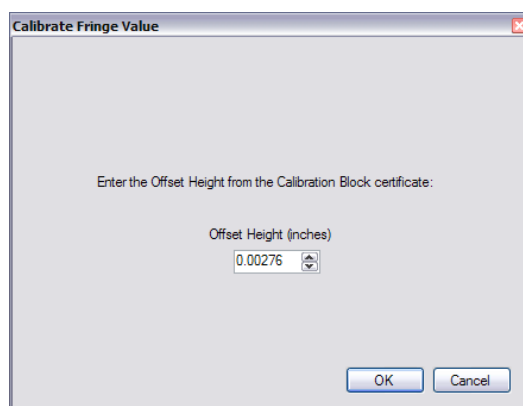

Figure 2.33 Offset Value Dialog
1. Enter the calibration offset value in the Calibrate Fringe Value dialog box (**Figure 2.33**) that pops up and click OK. The calibration offset value for the block is on the Calibration Certificate provided with each block. Please note that the relevant